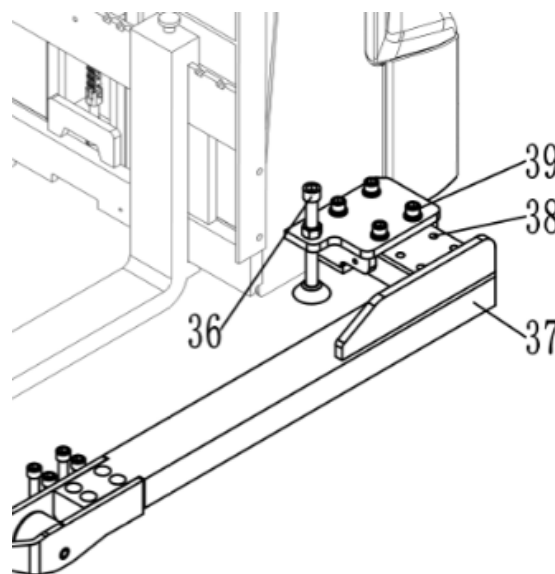

Fig.14: Adjust the legs
- Tighten the positioning bolt (39) after adjusting the legs.
- When adjusting the legs, please pay attention that the number of positioning holes (38) exposed on each side of the legs should be same. (as shown in Fig. 14, if one side has 4 positioning holes(38), the other side should also be 4).
- Turn clockwise the supporting assembly(36) on both sides of the truck until jacking up the truck.
- Screwed out the positioning bolt (39).
- Adjust the leg (37) until the corresponding positioning hole (38) is adjusted to the underface of the positioning bolts (39).
When adjusting the legs, please pay attention that the number of positioning holes (38) exposed on each side of the legs should be same. (as shown in Fig. 14, if one side has 4 positioning holes(38), the other side should also be 4).
- Screw the positioning bolt (39) tightly.
- Turn anti-clockwise the supporting assembly (36) on both sides of the truck until the supporting assembly can't be turned anymore.